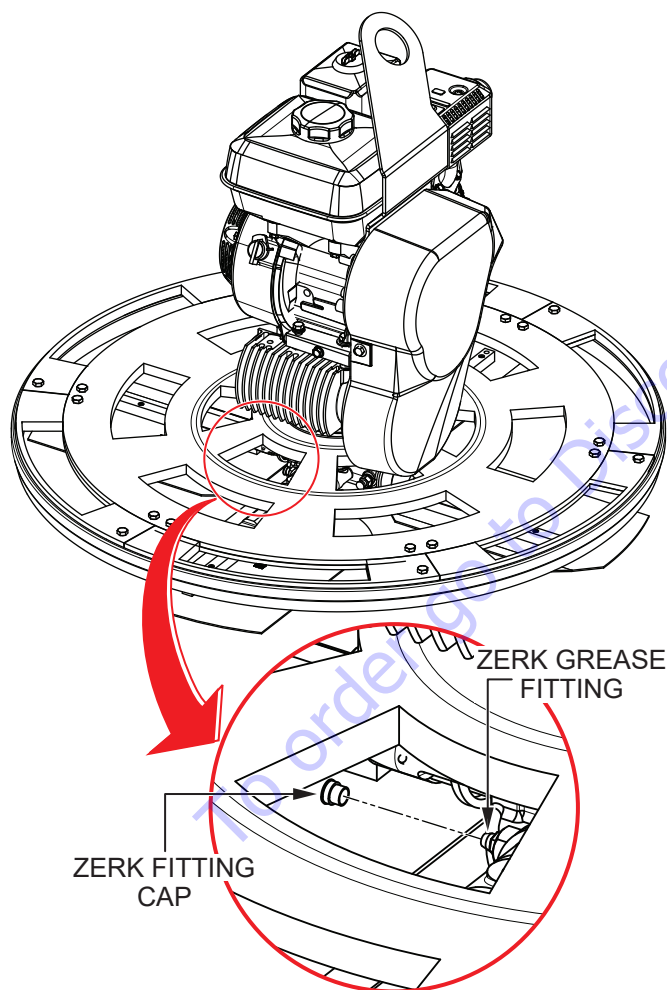

Figure 63. Spider Lubrication
1. Locate one of the Zerk grease fittings on the spider assembly (Figure 63). Remove the Zerk fitting cap and set it aside.